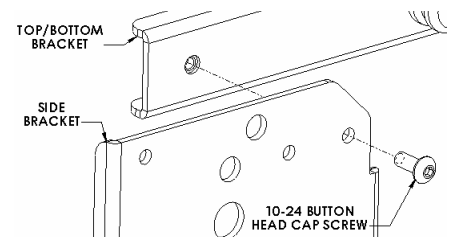
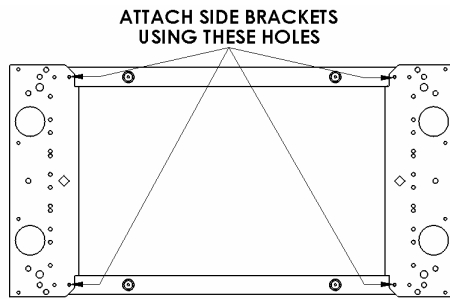

Figure 4
Figure 5
2. Using four 10-24 button head cap screws, attach top and bottom to side brackets (see Figure 4 & Figure 5).